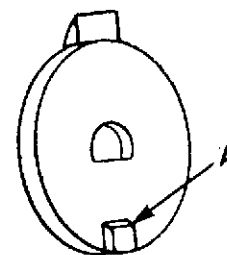

FIG. 8
- C) Control Knob may be loose. Tighten. There should be a slight amount of forward motion of Control Knob after knob is in Forward position. If not, remove knob and file about 1/4 off of extrusion on knob. (Refer to Fig. 8)